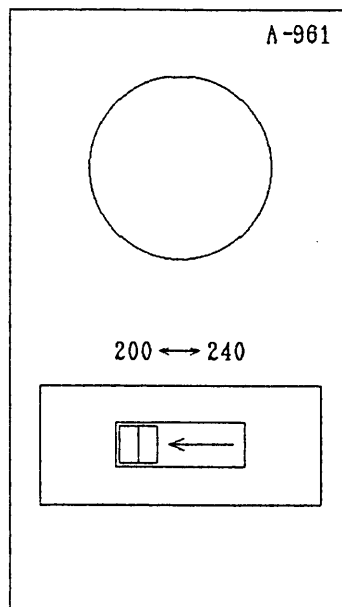
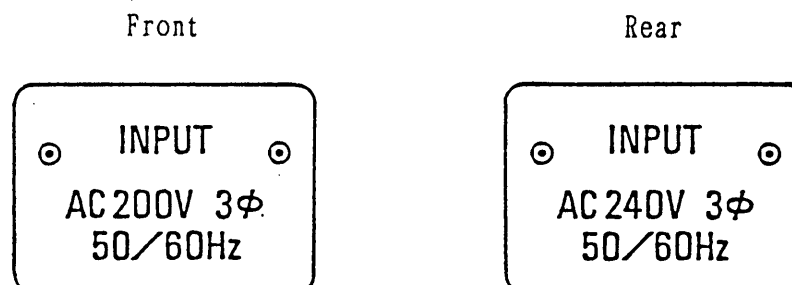

Figure 2-13 For 240V AC line
Figure 2-13A Name Plate of Input Voltage
- (1) Set the switches of the A-961 board as shown in Figure 2-13.
- (2) Seal the switches of the A-961 board with the "AC 240V" seals.
- (3) Post the "AC 240V" seal on the printed "AC 200V" mark at the rear input terminal block.
- (4) Change the name plate of input voltage.
- (See Figures 2-13A and 2-18 ㉔.)